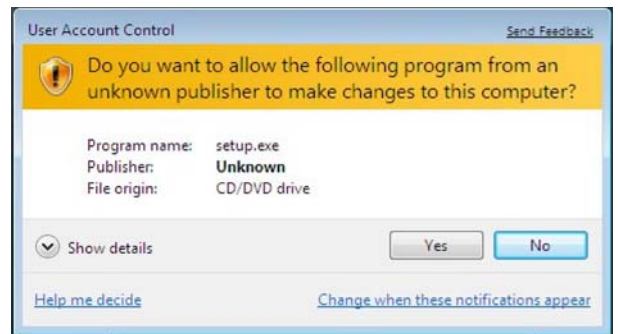
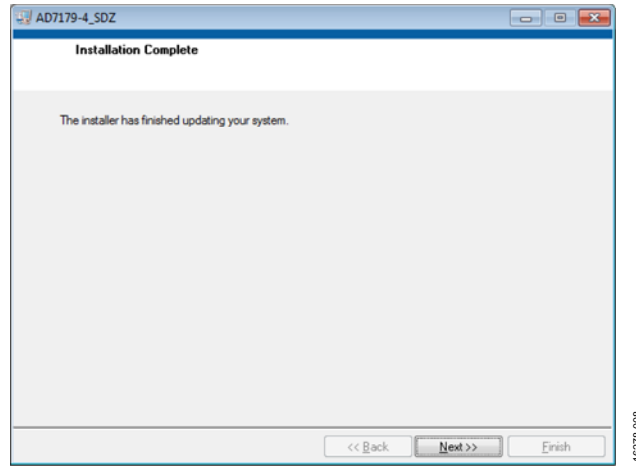

Figure 4. User Account Control Window
Figure 8. Installation Status Window
- EVAL-AD4110-1SDZ board software installation (see Figure 4 to Figure 8).
3. A dialog box may appear asking for permission to allow program changes to the PC (see Figure 4). Click **Yes**.
8. A dialog box informs the user when the installation is complete. Click **Next>>** (see Figure 8).